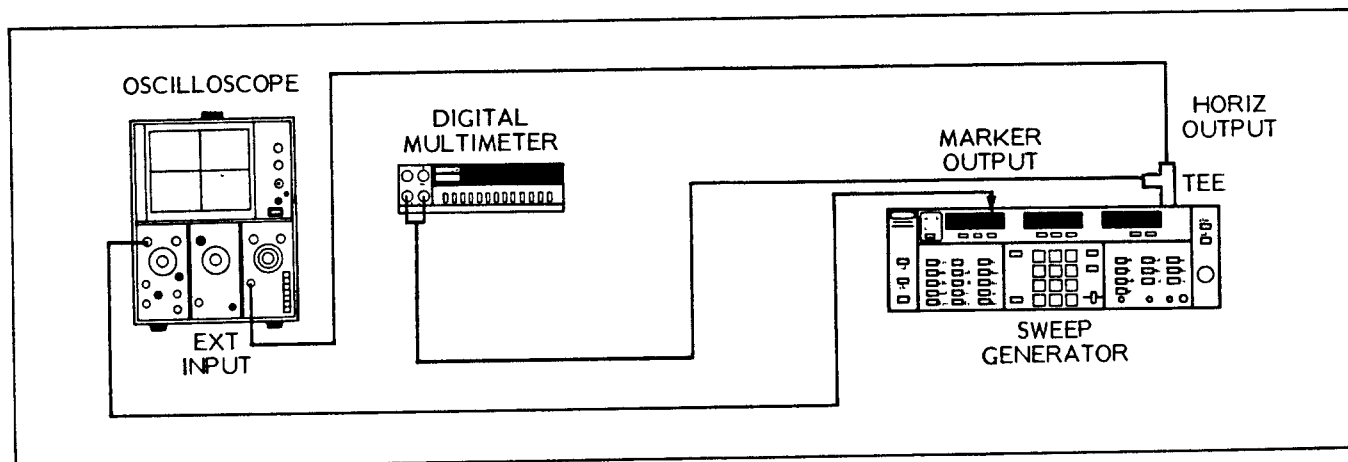

Figure 5-11. Test Equipment Setup for A3 Marker Generator Adjustments
1. Replace Figure 5-11 with the new figure below.